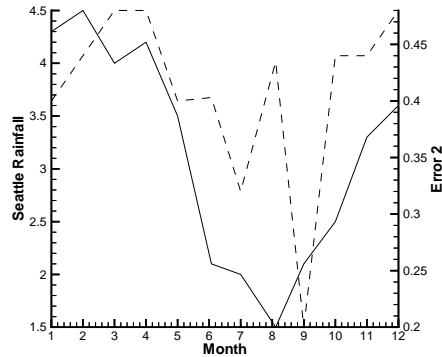

Figure 8-15. An XY-plot using two Y-axes.
5. Redraw to obtain the plot shown in Figure 8-15.
By default, Tecplot places axis X1 at the bottom of your axis grid area, and subsequent X-axes at the top. Similarly, it places axis Y1 at the left of your axis grid area and subsequent Y-axes at the right. Thus, in Figure 8-15, the Seattle rainfall observations are shown along axis Y1 at the left of the axis grid area, while the error observations are shown along Y2 at the right.